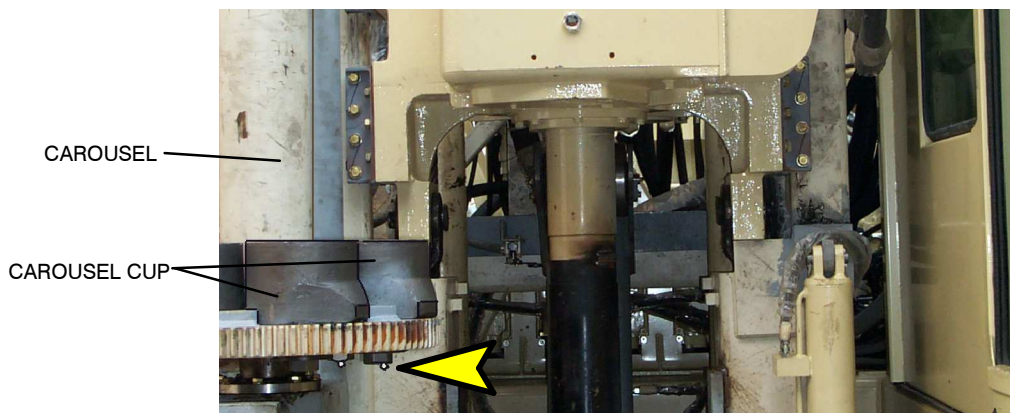

Figure 6.5-39
4. Inject 5 shots of MPG-EP1 grease into each drill rod carousel cup grease nipple (See Figure 6.5-39).